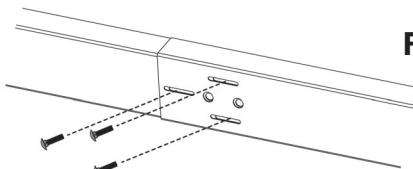

Fig. 2
- Insert the 3 supplied bolts (Type 2) through the 3 slots (**Fig. 2**).